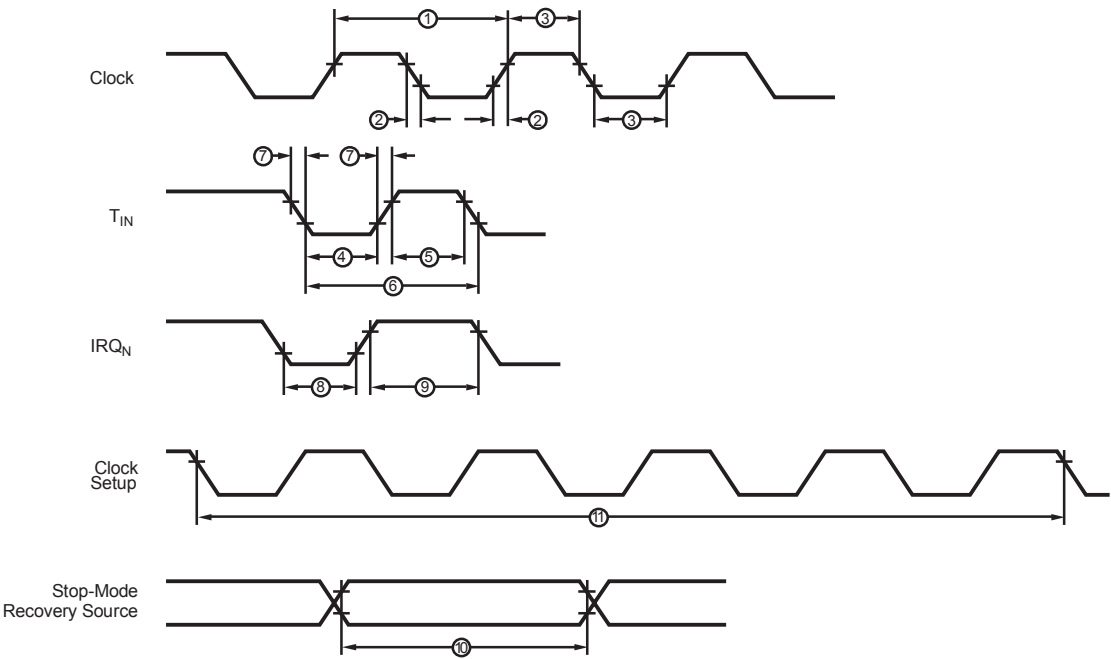

Figure 40. AC Timing Diagram
Figure 40 and Table 62 describe the Alternating Current (AC) characteristics.